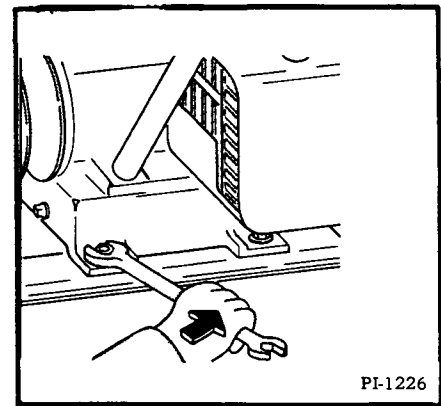

Fig. 40 Loosening Engine Mounting
- (5) Loosen the engine mounting bolts (Fig. 40).